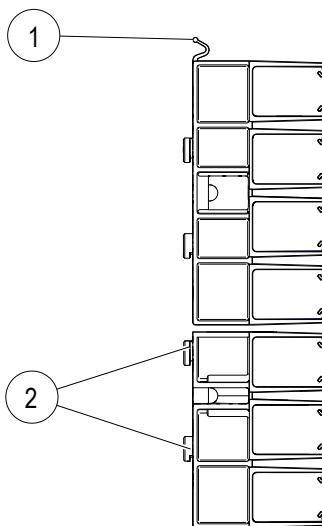
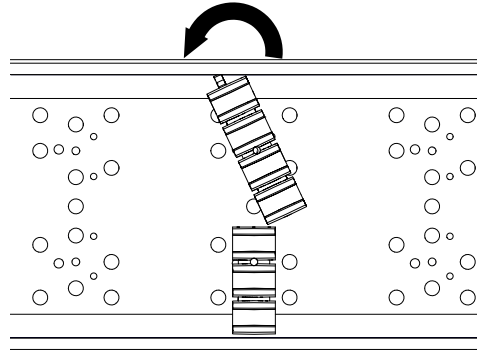

Fig. 21: Locking clip (1) and installing pin (2)
Fig. 23: Hook 4-pole rail hanger clamp onto ProShell 206 Support Profile System
1. First, hook the locking pins (2) of the 3-pole hanger clamp onto the lower part of the ProShell support profile. Then install the 4-pole hanger clamp onto the upper support profile system part using its locking clip (1) (see Fig. 21 to Fig. 23).